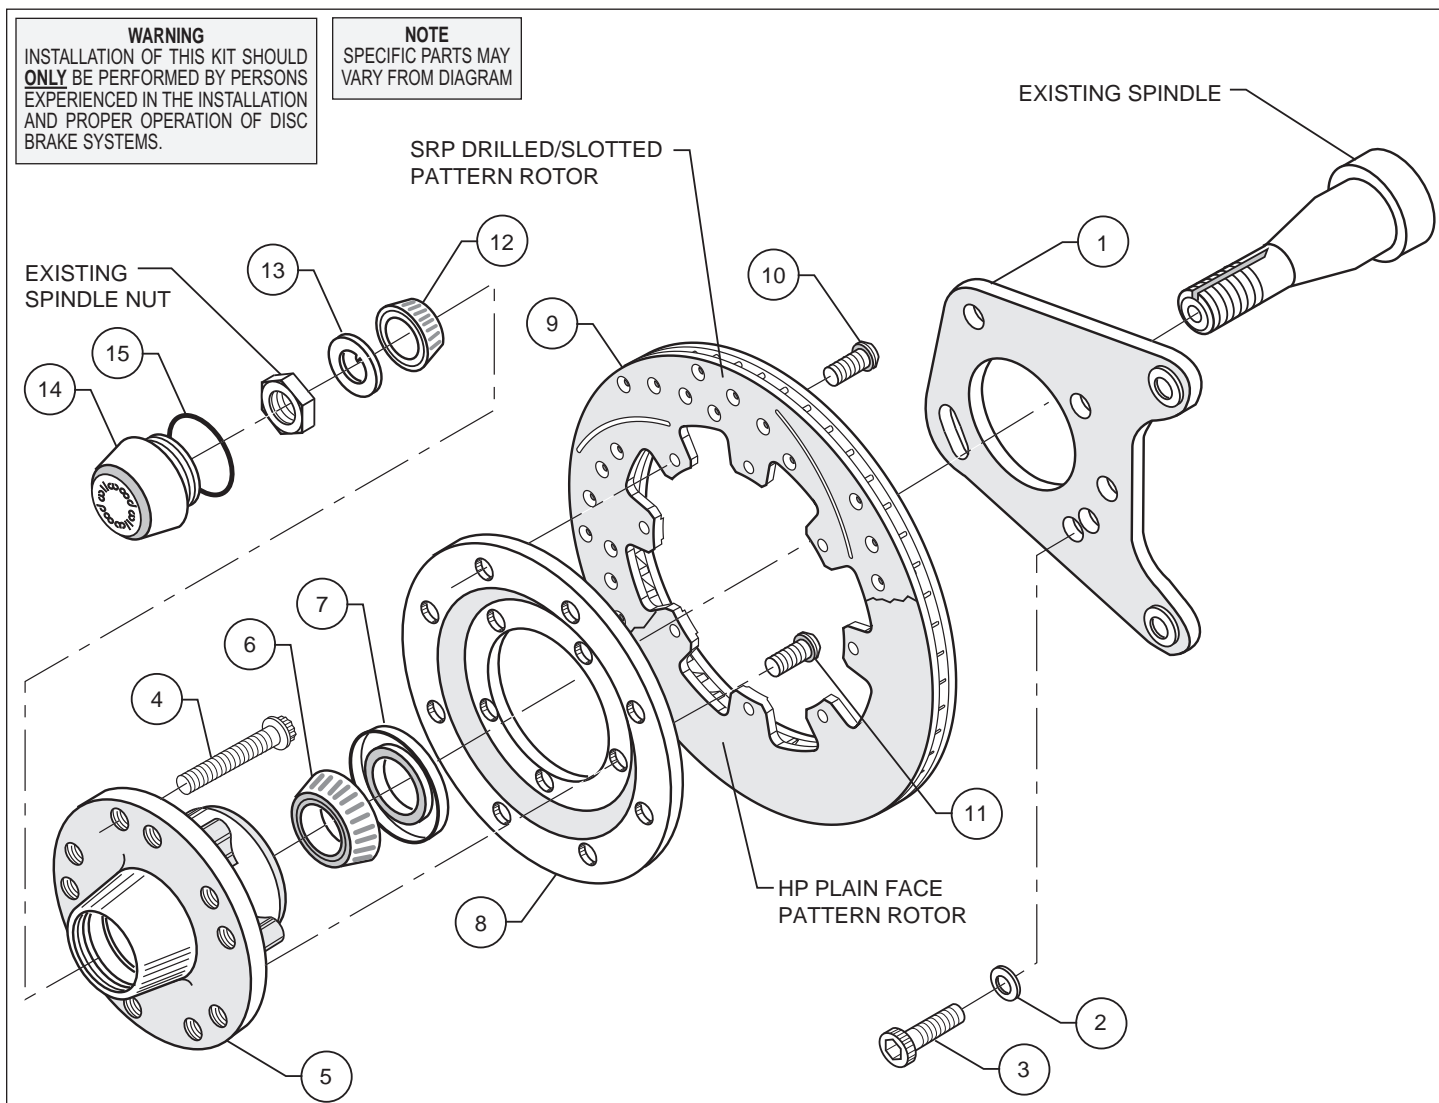

Figure 1. Typical Installation Configuration
- Position the caliper mounting bracket (1) on the spindle. **NOTE:** Be sure the heads of the caliper bracket (1) insert nuts are facing outward toward the wheel. Place one washer (2) on each of the three caliper bracket bolts (3). Mount bracket to the dust plate face of the spindle and align the three 3/8-16 holes in the spindle with the corresponding holes in the bracket (1). Apply red *Loctite*® 271 to all three bolt threads (3) and install. Torque bolts (3) to 22 ft-lb.
- Install wheel studs (4) into the hub (5). Torque to 77 ft-lb. **NOTE:** There are two lug patterns of five holes each in the hub (5 x 4.50 and 5 x 4.75). Make sure of the correct hole pattern for the wheel application before installing the studs into the hub.
- Orient the rotor (9) and the rotor adapter (8) as shown in Figure 1. Attach the rotor to the adapter using bolts (10). Using an alternating sequence, apply red *Loctite*® 271 to the threads, and torque to 25 ft-lb.
- Mount the adapter/rotor assembly (8/9) to the hub (5) using bolts (11), as shown in Figure 1. Using an alternating sequence, apply red *Loctite*® 271 to the threads, and torque to 45 ft-lb.
- Pack the large inner bearing cone (6) with high temperature disc brake bearing grease (available from your local auto parts store) and install into the backside of the hub (5).
- Install the grease seal (7) by pressing into the backside of the hub (5).
- Pack the small outer bearing cone (12) with high temperature disc brake bearing grease and install into front of hub (5). Slide the hub assembly (5, 6, 7 and 9) with outer bearing cone (12) onto the spindle. Secure using spindle washer (13), stock adjusting nut and nut locking device. Adjust bearings per Original Equipment Manufacturer (OEM) specifications.
- Install the o-ring (15) and the dust cap (14) onto the hub (5). Friction created by the o-ring (15) on the dust cap (14) keeps it from unscrewing on its own.